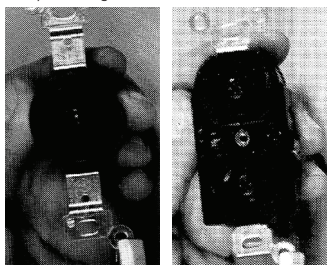

Figure 1
1. Remove two break-off ears on each end of receptacle strap to allow for positive seating on cover assembly. (See Figure 1.)